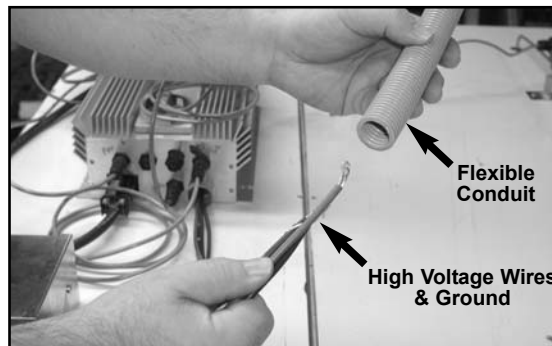

Figure 2
2. Take Power Module High Voltage Wires with Ground and put through Flexible Conduit. See **Figure 2**.